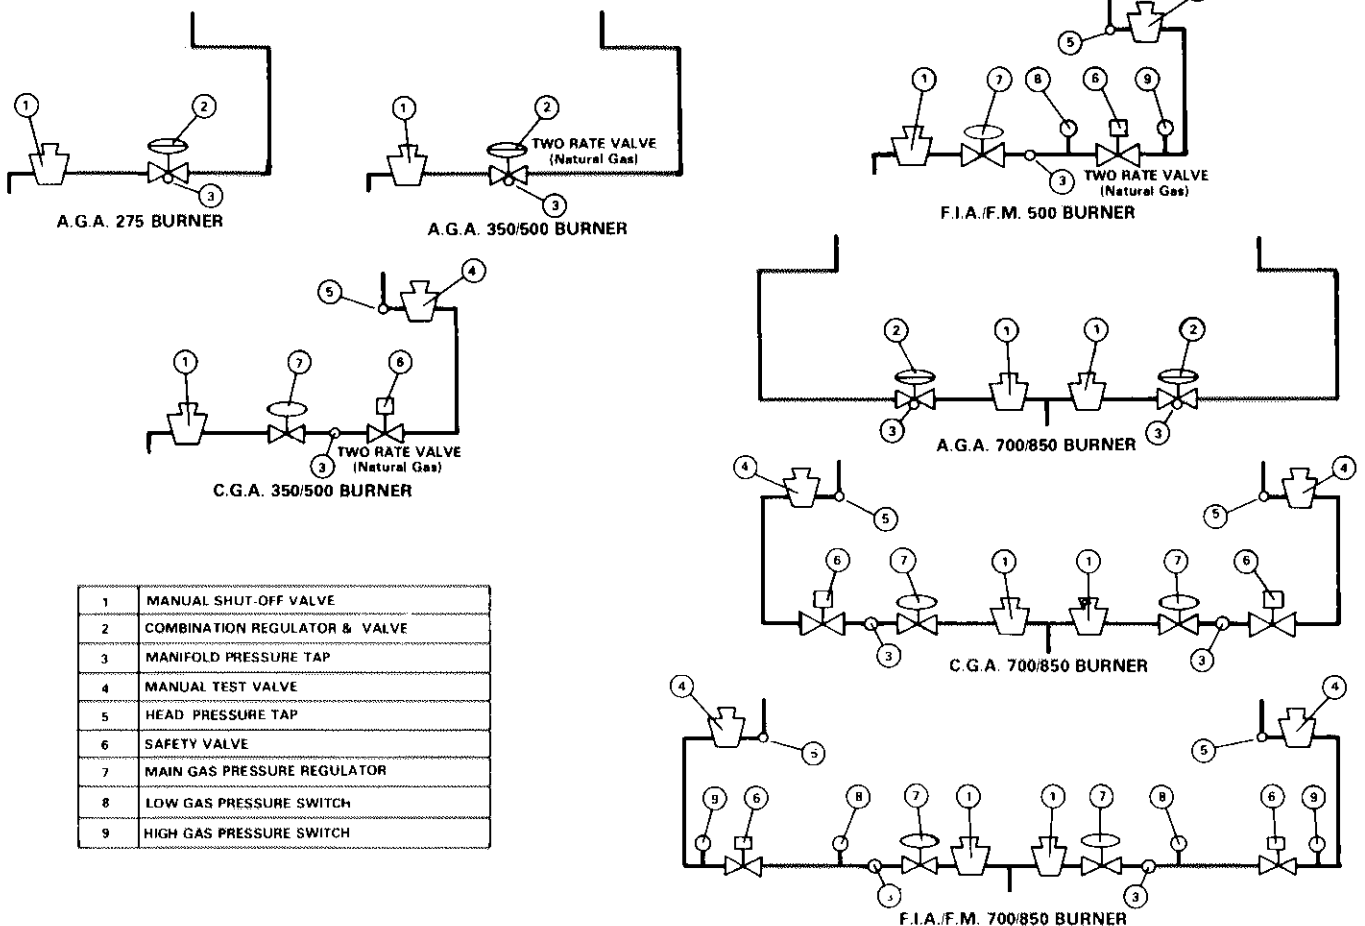

FIGURE 38
Refer to the piping manifold schematics in Figure 38 for location of the manual shut-off valve(s) and regulators for the natural and propane gas options.
- 3 - *Main Regulator* - Refer to Figure 38 for location to take reading and Table 5 for setting. Take reading and make adjustments with unit operating at maximum firing range.
F.I.A./F.M. approved units are equipped with a high pressure and a low pressure switch. Refer to Figure 38 of this instruction for the location of switches and to Table 6 for their set point.